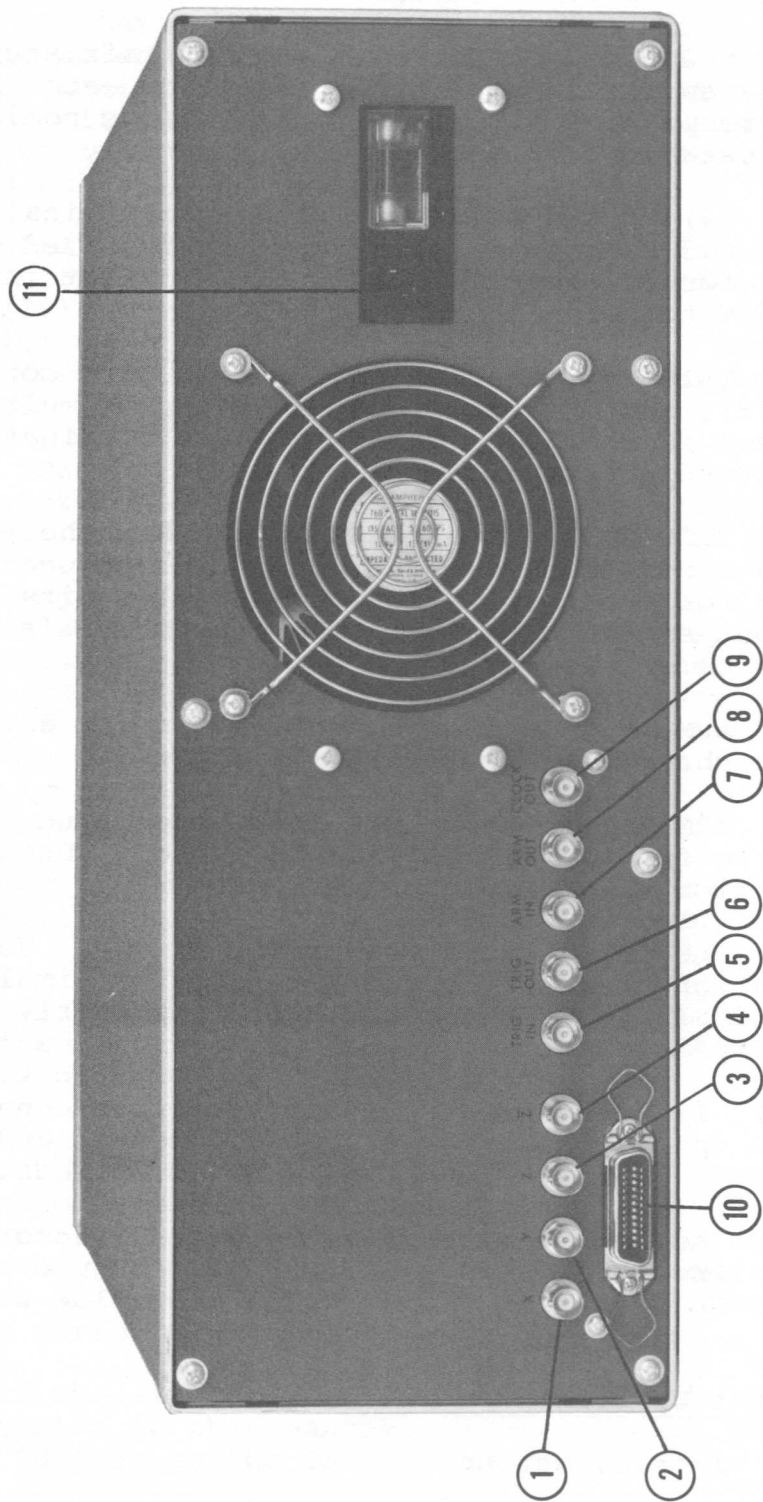

Figure 4.4 1650-D Rear Panel
4.3 Rear Panel Connectors (See Figure 4.4)